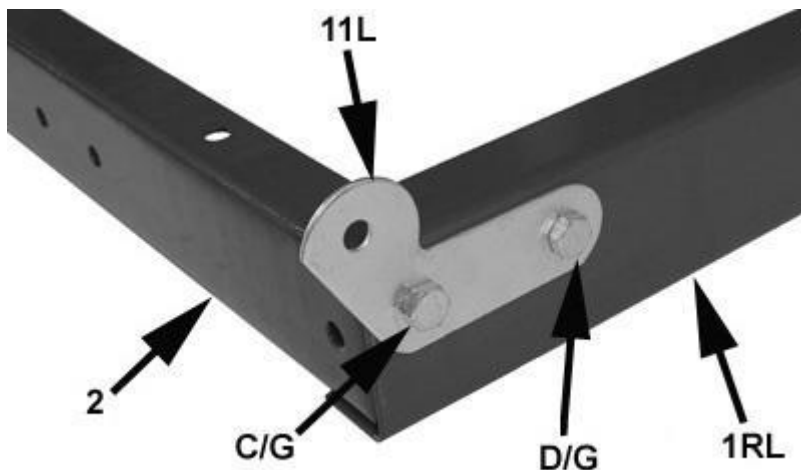

Figure 3-2
2. Position left rotation bracket (11L) as shown and connect front cross member (2) to left frame rail (1RL) with M10 x 20 bolt (D), M10 x 30 bolt (C) and M10 nylon lock nuts (G). See figure 3-2.